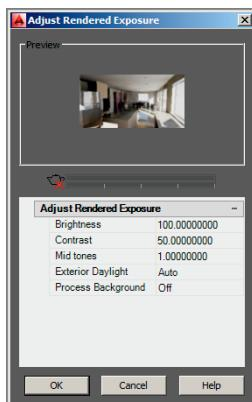

FIGURE 18.14 Adjusting exposure prior to rendering
2. Select the ribbon's Visualize tab, and expand its Render panel. Select the Adjust Exposure tool. After a few moments of calculation, AutoCAD creates a preview that gives you a rough sense of the level of illumination in a rendered thumbnail image. Because it appears dark, change the Brightness from **65** to **100** and press Tab. The preview brightens significantly (see Figure 18.14). Click OK to close the Adjust Rendered Exposure dialog box.